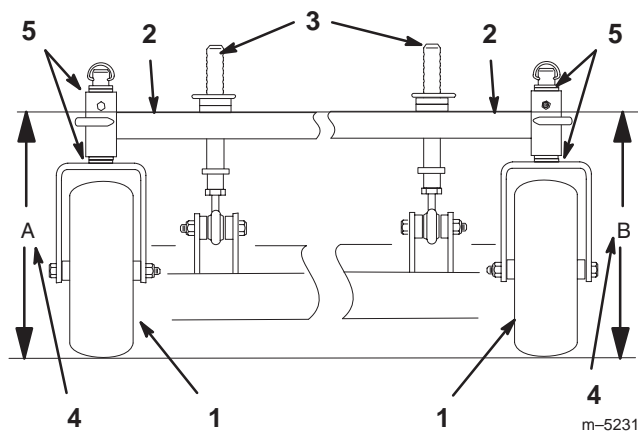

Figure 51
3. Measure carrier frame height at location A (Fig. 51).
4. Measure carrier frame height at location B (Fig. 51).